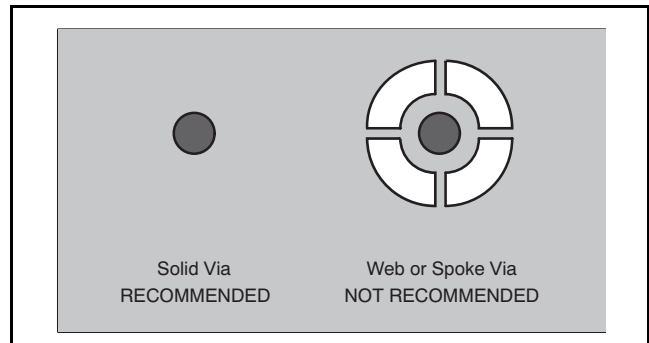

Figure 24. Via Connection Methods
5. When connecting the thermal vias to the internal plane, do not use the typical web or spoke via connection methodology (as Figure 24 shows). Web connections have a high thermal resistance connection that is useful for slowing the heat transfer during soldering operations. This configuration makes the soldering of vias that have plane connections easier. However, in this application, low thermal resistance is desired for the most efficient heat transfer. Therefore, the